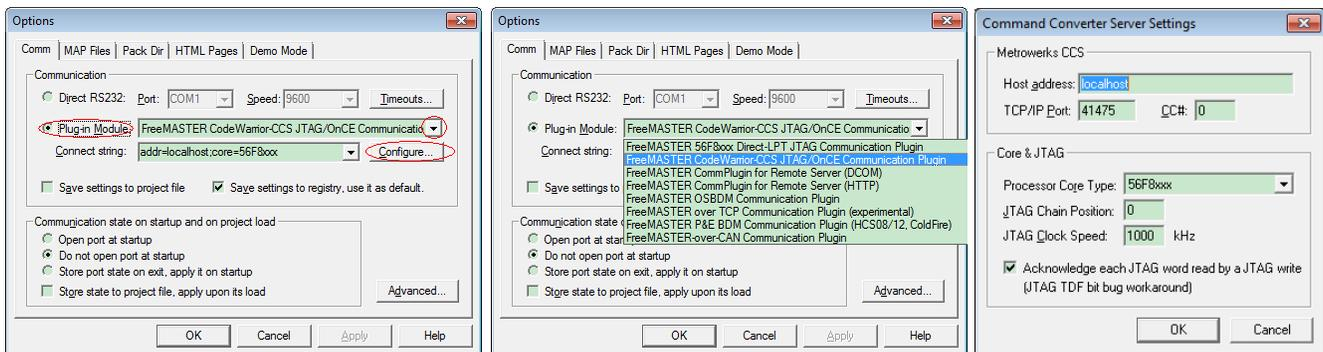

Figure 4. FreeMASTER settings – "Options: Comm"
- e. Click the "OK" button to complete configuring the command converter server settings (shown in Figure 4).